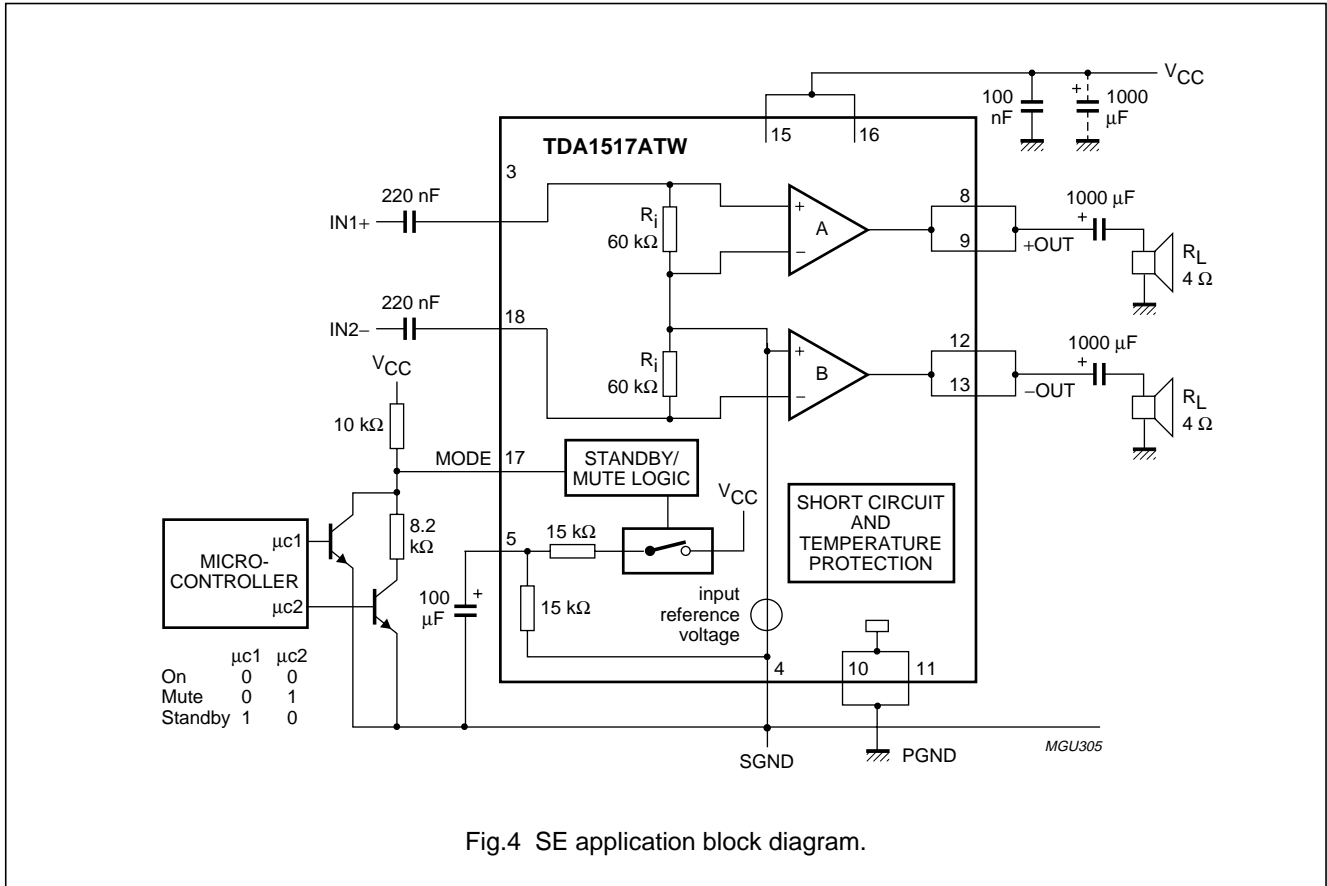

Fig.4 SE application block diagram.
1.  $R_L = 4 \Omega$ , measured in Fig.4.